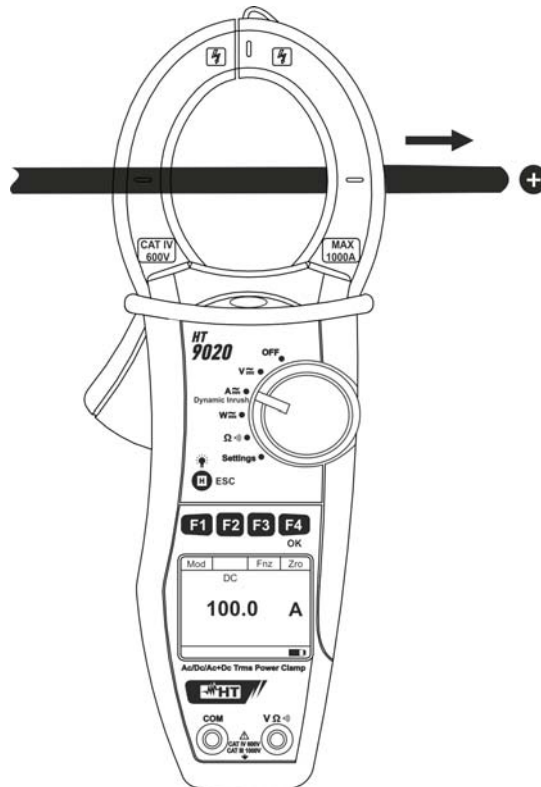

Fig. 9: DC current measurement
5. Connect the cable to the middle of the clamp jaws, in order to get accurate measurements (see Fig. 9). Use the marks as a reference (see Fig. 2)